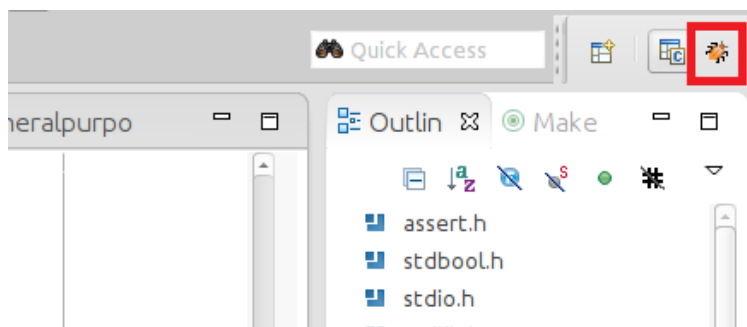

Figure 8-40. Switching to the DS-5 Debug Perspective
22. Switch to the *DS-5 Debug* perspective, as shown in Figure 8-40.